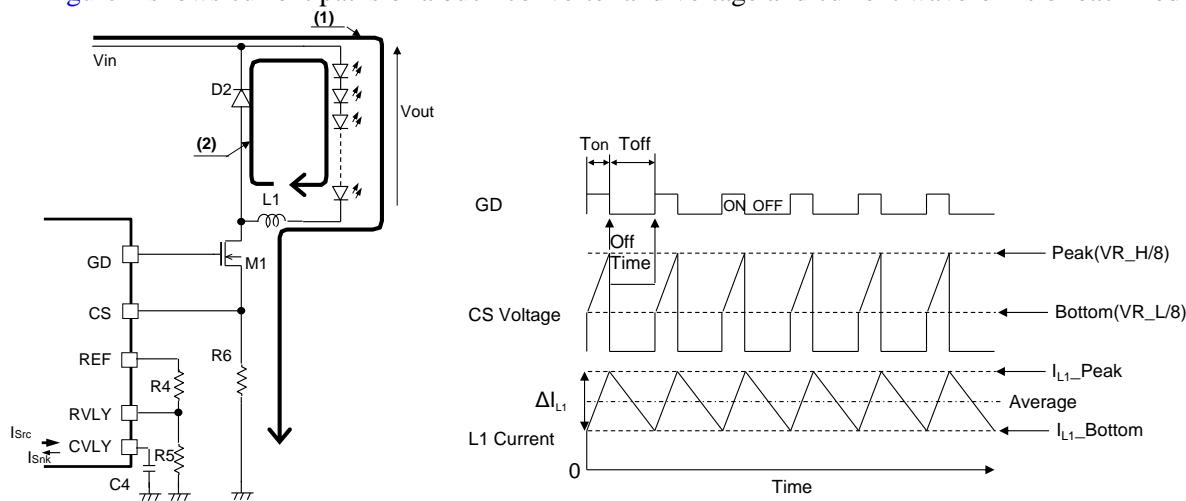

Figure 2. Operation Images of Buck Converter
Figure 2 shows current paths of a buck converter and voltage and current waveforms of each node.
The current of inductor L1 is controlled by turning ON and OFF the external N-channel power MOSFET (M1) with the GD pin output. The current path when the GD pin turns ON is shown as (1) and OFF is shown as (2) in Figure 2.